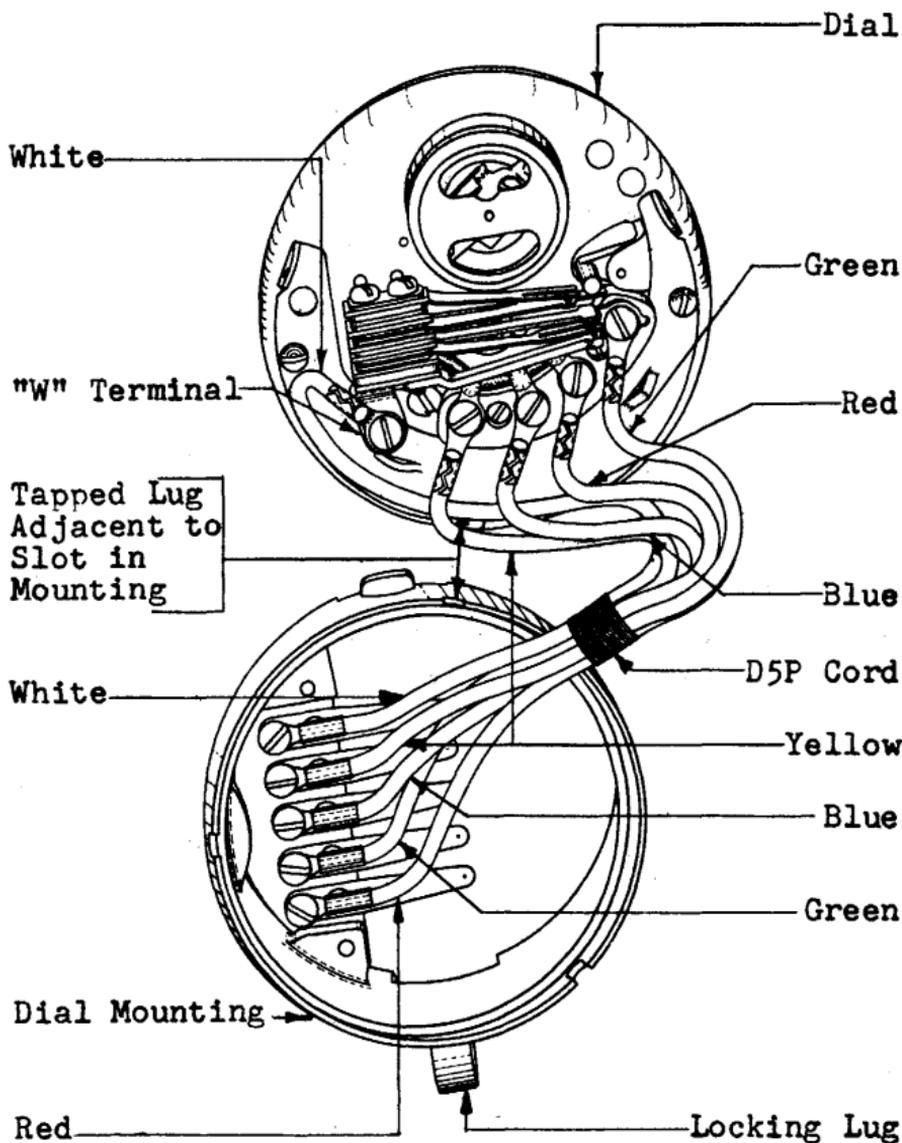
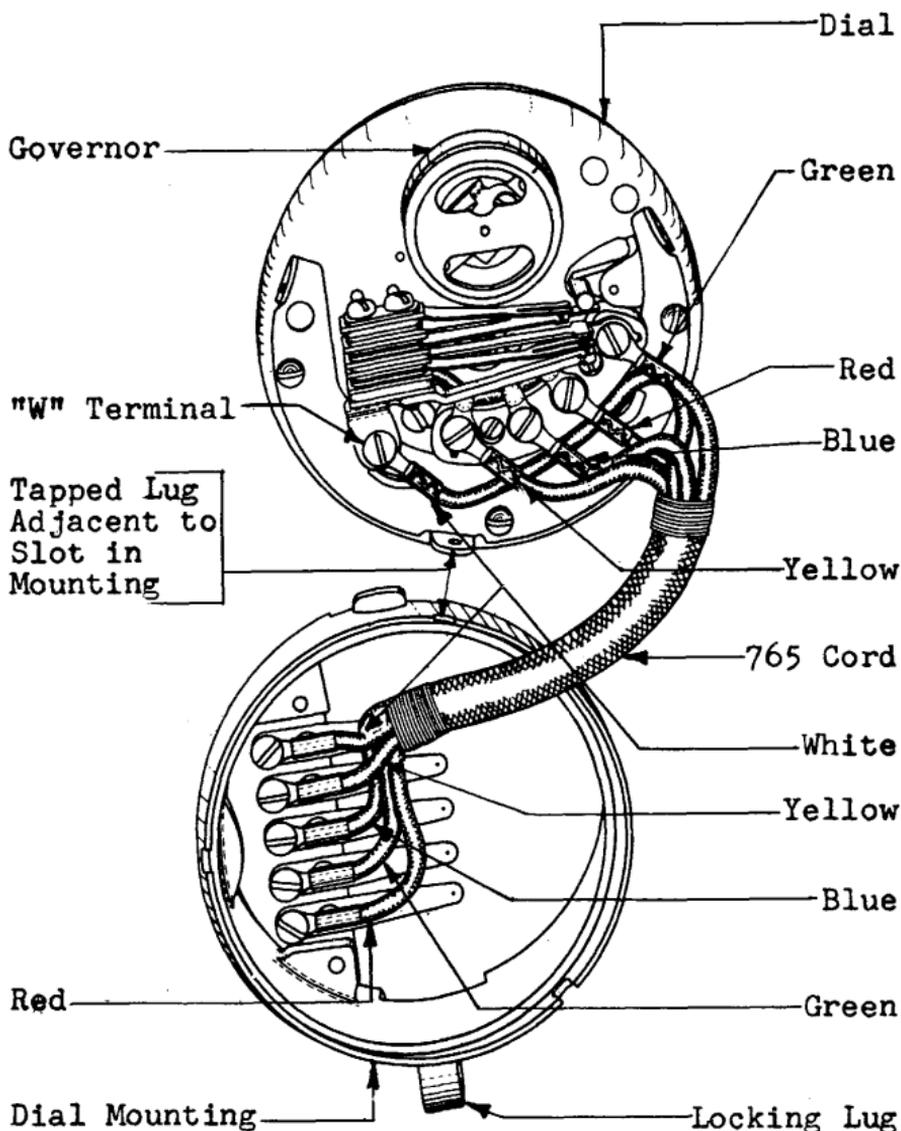

Fig. 2 - Method of Cording Dial Mountings and Dials Having Their "W" Terminal as Part of the Contact Spring Assembly Using D5P Cords
Fig. 3 - Method of Cording Dial Mountings and Dials Having the "W" Terminal as Part of the Contact Spring Assembly Using No. 765 and Similar Type Cords
5.01 Dials Having the "W" Terminal As Part of the Contact Spring Assembly (See Fig. 2): After gaining access to the terminals as outlined in 3.01 and 3.02 remove the old cord by loosening the cord tip mounting screws using the screwdriver. The dial end of the cord is that end not having insulating sleeves. Working from the green terminal connect the leads to their proper terminals matching the color of the leads (or the tracers in the leads in certain type cords) with the lettered abbreviations on the dial adapter; Y indicating yellow or yellow tracer; B, blue or blue tracer and so forth. Run the white lead or the lead with the white tracer under the other leads to prevent snagging the lead on the contact springs of the dial. Where the No. 765 cord is used run the white lead inside of the V-shaped embossing in the dial adapter as shown in Fig. 3. Angle the leads about as shown in Fig. 2 or 3 depending on the type of dial cord used. Set the cord tips so that the leads are approximately parallel and do not cross each other. Tighten the cord tip mounting screws firmly.
5.03 Place the dial mounting in front of the dial as shown in Fig. 2 so that the tapped lug in the dial adapter nearest the "Y" terminal is adjacent to the slot or hole in the dial mounting which is about opposite the locking lug. Cord the dial mounting as shown in Fig. 2 connecting the leads to their proper terminals, matching the leads with the lettered abbreviations on the dial mountings, as indicated in 5.01. Cord the dial mounting working from left to right taking care that the leads are in their proper positions and not tangled. Fasten the cord tip mounting screws securely.
5.04 Dials Having D5P Cords: After the cord has been firmly connected to the dial and dial mounting and with the dial and dial mounting placed adjacent to each other as described in 5.03 and illustrated in Fig. 2, fold the dial mounting over the dial using the tapped lug in the adapter nearest the "Y" terminal of the dial as a pivot. While doing this, position the coiled part of the leads (particularly the white and yellow leads) so that they will not be clamped against the dial by the dial mounting. When the dial and dial
After the cord has been firmly attached to the dial and dial mounting, hold the dial mounting with the locking lug at the top so that the dial dangles by the cord. Turn the dial so that the terminals face you, (if the dial has not already assumed that position) and then raise the dial to a horizontal position with the terminals to the rear. Then raise the dial so that the dial adapter lug nearest the Y terminal on the dial is adjacent to that slot or hole in the dial mounting which is opposite the locking lug on the mounting as shown in Fig. 3. Then fold the dial into the dial mounting using the tapped lug in the dial adapter as a pivot, taking care that the dial mounting does not clamp the leads of the cord. The cord will double back over the leads on the dial with the cord taking a position against the frame of the dial mounting away from the contact springs. Be sure that the cord has not snagged on the contact springs of the dial and that the cord tips do not touch each other or the dial and the dial mounting.